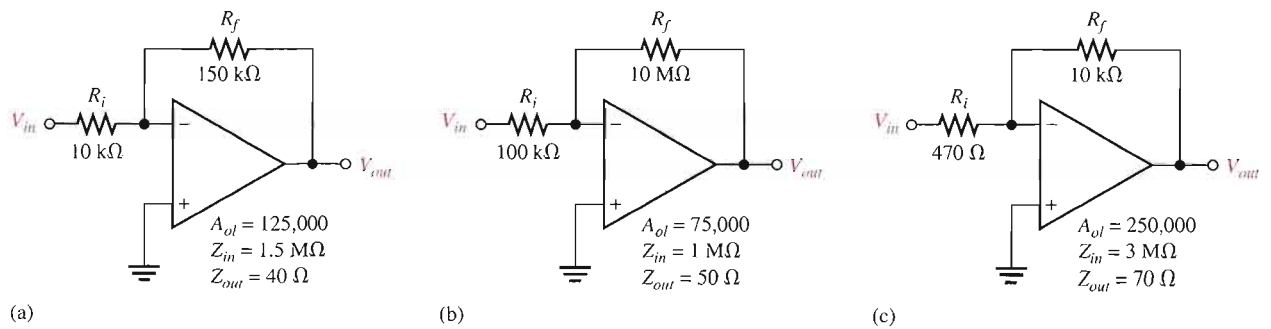

FIGURE 12-62
21. Repeat Problem 19 for each circuit in Figure 12-62.